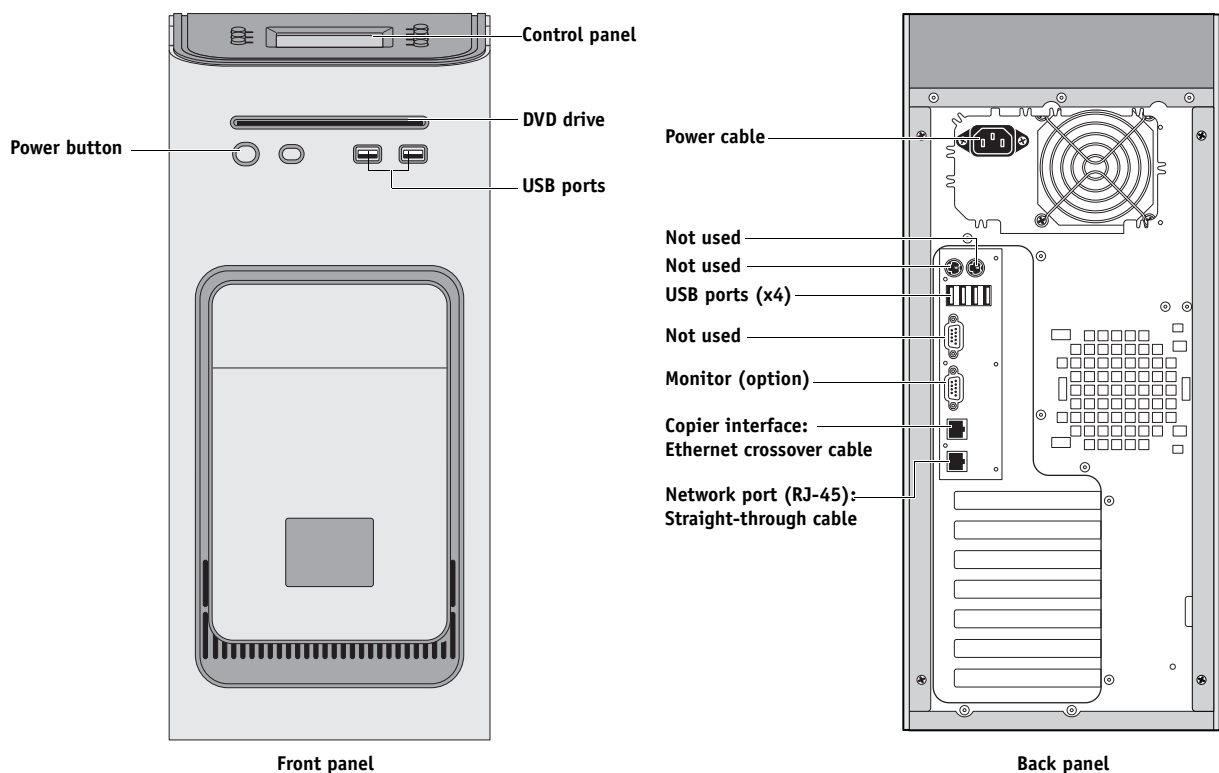

FIGURE 39: E-8100 external cable connections
- All interface cables to the system are plugged into the proper connectors (see Figure 39).